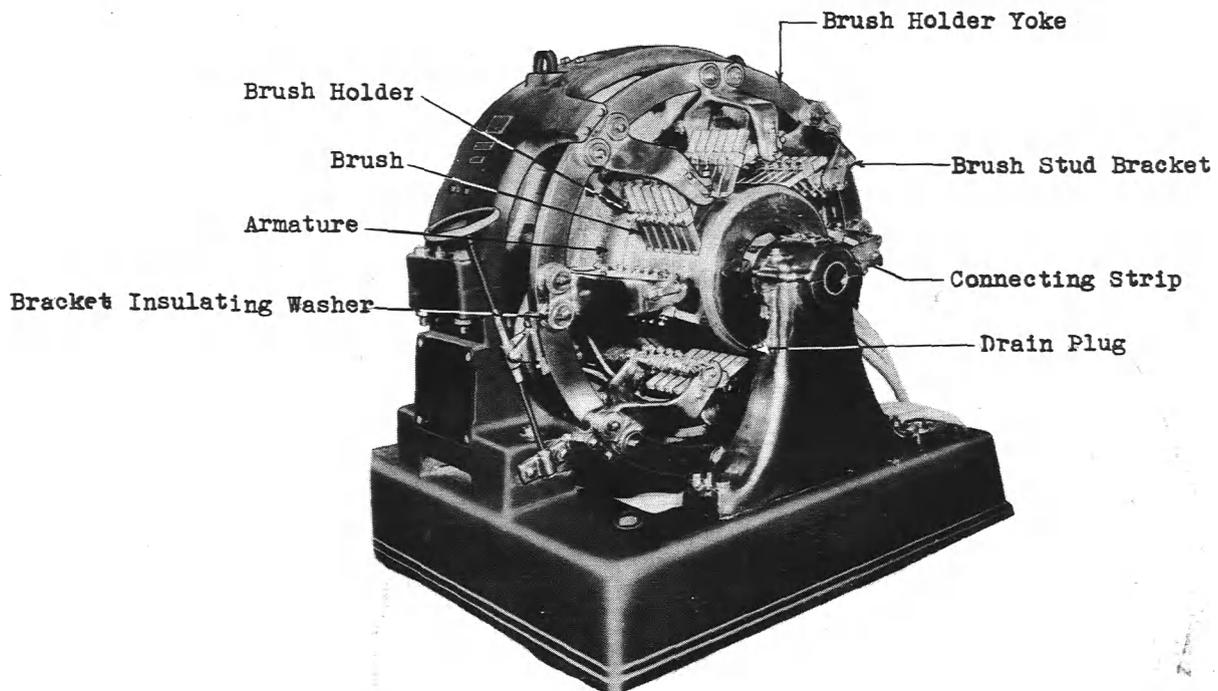

FIG. 1 - M-15 GENERATOR (FRAME MOUNTED BRUSH RIGGING)
(1) To replace a brush holder assembly on the M-1 to M-8 type Generators, remove the brush as outlined in procedure 3.01, (1). Loosen the brush holder clamping screw which holds the brush holder assembly on the brush holder stud and work the assembly off the stud. If it binds on the stud, place a screw-driver between the edges of the clamp as near the clamping screw as possible and spread the clamp slightly. Slip the new complete brush holder assembly, consisting of the brush clamping screw, brush clamping lock nut, brush stiffener, brush holder spring stud, spring and nut, latch and spring, brush holder shunt and screws, on the brush holder stud and reassemble in the reverse order, making sure that the clamping screw and shunt screw are tight.
(2) To replace a brush holder assembly on the M-10 or M-15 type generators, remove the brushes as outlined in procedure 3.01 (1). Loosen the brush holder stud set screws on both ends of the brush holder stud. Remove the connecting strip. This will enable the brush
3.04 Bearings (See Figs. 1 & 2)
Brush Holder Stud (See Figs. 1 & 2)
3.05 Armature (See Figs. 1 & 2)